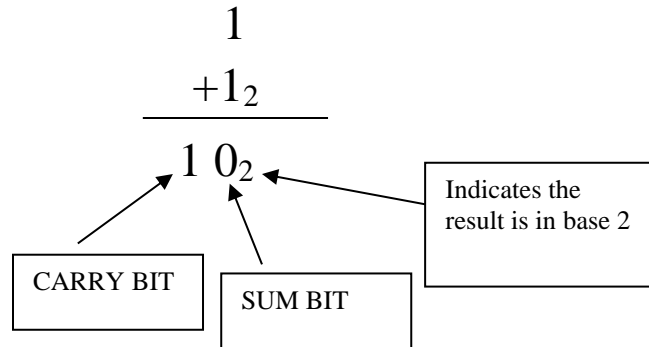

Figure 1. A detailed look at 1+1=2 in binary.
The first three examples have results that can be represented as a digital output (0 or 1). However, in the last example,  $1+1=2$ , the sum cannot be represented with a single binary value. (This corresponds to the base ten problem of  $9+1=10$ ; we can't write 10 as a single digit, so we "carry the one" into the tens place to get a two-digit answer.) In Figure 1, we show a detailed anatomy of the problem  $1+1=2$ . In this view, we see that the binary result consists of a *sum bit* (0) and a *carry bit* (1).